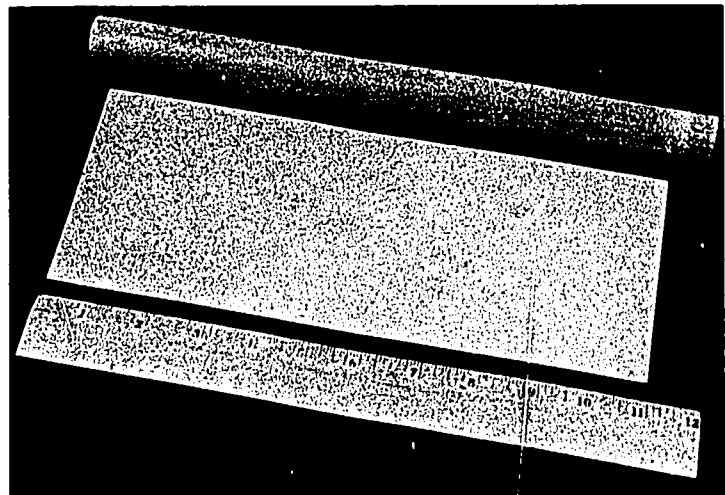

Fig. 4C-1. Positioning the Paper
3. Roll the paper around the dowel and apply a narrow bead of glue. See Fig. 4C-2.
5. Wipe off extra glue with a damp paper towel. See Fig. 4C-3.